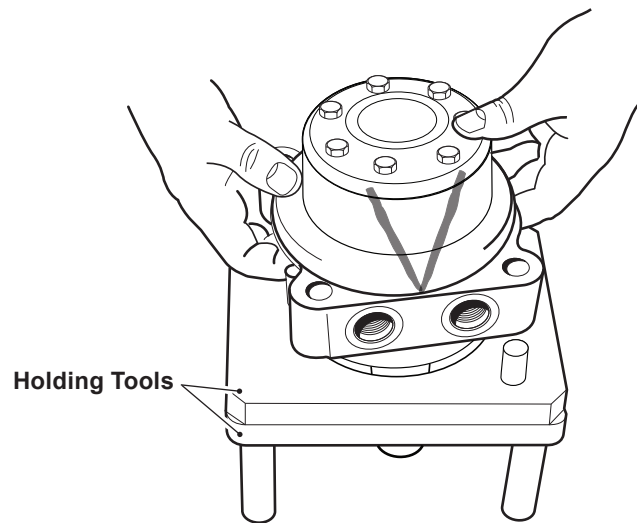

Figure 6, Service position
5. Place the HGM-C motor into a holding tool. *See figure 6.*